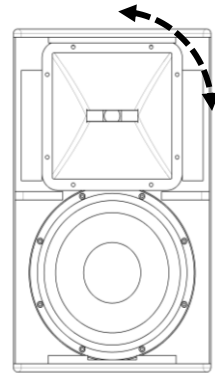

Fig.3-1-2-C
- (2) Gently remove the grille from the front of the enclosure. (Fig.3-1-2-A)
- (3) Using a hex key, remove the bolts holding the HF waveguide in place. (Fig.3-1-2-B)
- (4) Lift the waveguide up and rotate it 90 degrees to change the dispersion orientation depending on the orientation of the enclosure. When the HF waveguide is rotated back to the original orientation, ensure it is rotated in the reverse direction when it was first rotated. (Fig.3-1-2-C)
- (5) Reinstall the bolts and retighten. Avoid over tightening as this may crack the waveguide.
- (6) Reinstall the grille by gently placing it in place over the front of the loudspeaker.
- (7) Reinstall the bolts to secure it in place.